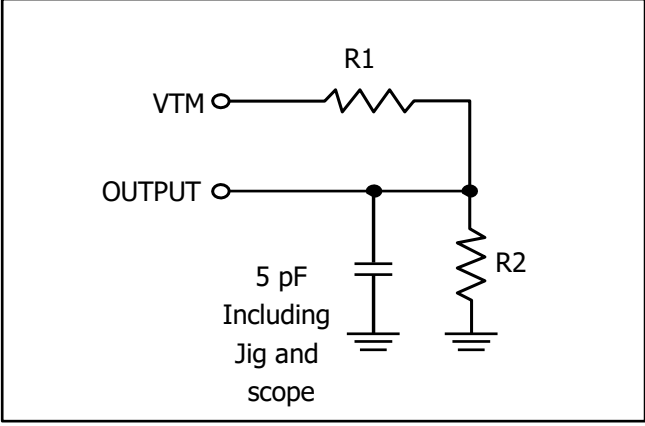

Figure 2
- 2. Tested with the load in Figure 2. Transition is measured ±100 mV from steady-state voltage. Not 100% tested.
3. Tested with the load in Figure 2. Transition is measured  $\pm 100$  mV from steady-state voltage. Not 100% tested.